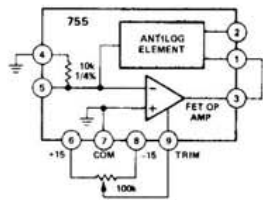

Figure 3. Trimming  $E_{OS}$  in Log Mode
**Scale Factor (K)** – Scale factor is the voltage change at the output for a decade (i.e., 10:1) change at the input, when connected in the log mode. Error in scale factor is equivalent to a change in gain, or slope, and is specified in per cent of the nominal value. An external adjustment may be performed if fine trimming is desired for improved accuracy.
**Trimming  $E_{OS}$**  – The amplifier's offset voltage,  $E_{OS}$ , may be trimmed for improved accuracy with the model 755 connected in its log circuit. To accomplish this, a 100k $\Omega$ , 10 turn pot is connected as shown in Figure 3, and the input terminal, pin 4, is connected to ground. Under these conditions the output voltage is: